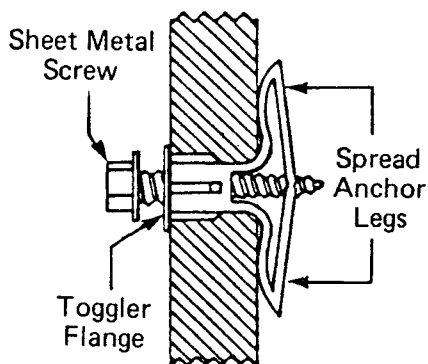

FIGURE 5—TOGGLER & SCREW
01.23 Thread the screws into the small holes in the center of the togglers. Leave approximately 3/16-inch clearance between the bottom of each screw head and the mounting surface (Figure 5).